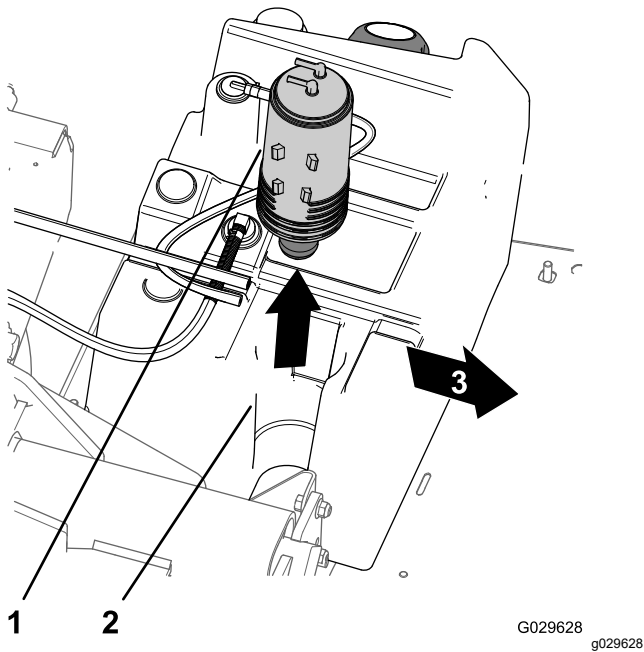

Figure 48
- Lift the carbon canister from the carbon-canister mount in the fuel tank (Figure 48).
7. Insert the new carbon canister into the carbon-canister mount of the fuel tank with the purge and fuel tank fittings aligned rearward (Figure 48).